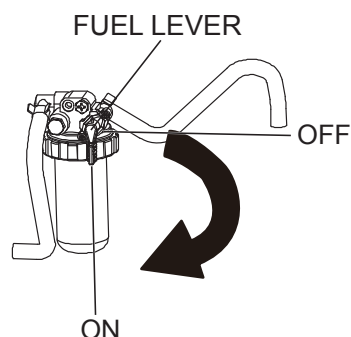

Figure 19. Fuel Lever (ON)
1. Open the rear cover of the cart. Set the fuel lever to the ON position (Figure 19).